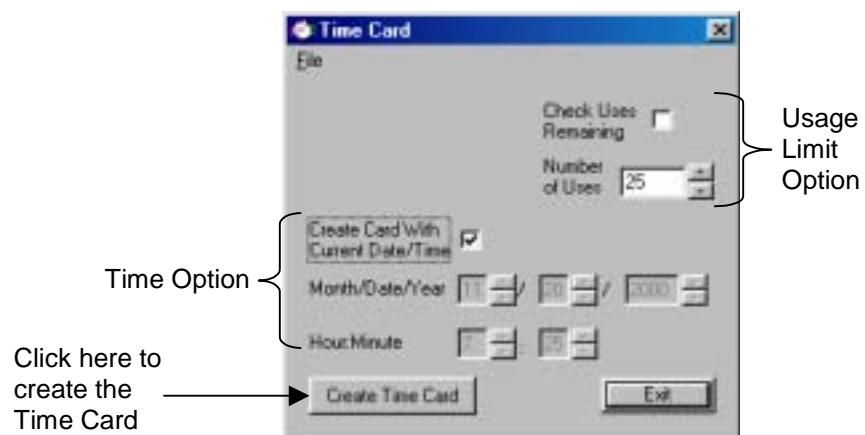

Figure 13.7 Creating a Time Card
2. If this card is to be issued with only a limited number of uses, select the “Check Uses Remaining” option and enter the number of times this card can be used (Figure 13.7).
3. Enable the “Create Card with Current Date/Time” option to create the Time Card with your PC’s Date and Time, or disable this option and enter the desired date and time (Figure 13.7).
5. Click the Create Time Card button (Figure 13.7).